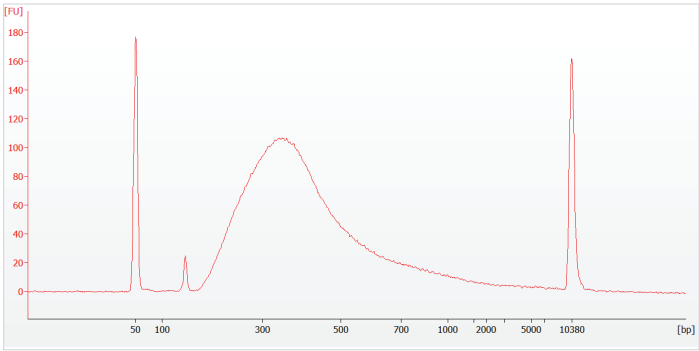

Figure 2. DNA fragment size distribution of a gDNA fragment library, as analyzed using an Agilent 7500 DNA Assay.
2.3 Evaluate the fragment size distribution using an Agilent 7500 DNA Assay. Average fragment length should be 375–425 bp using a range setting of 150–1,000 bp (Figure 2).